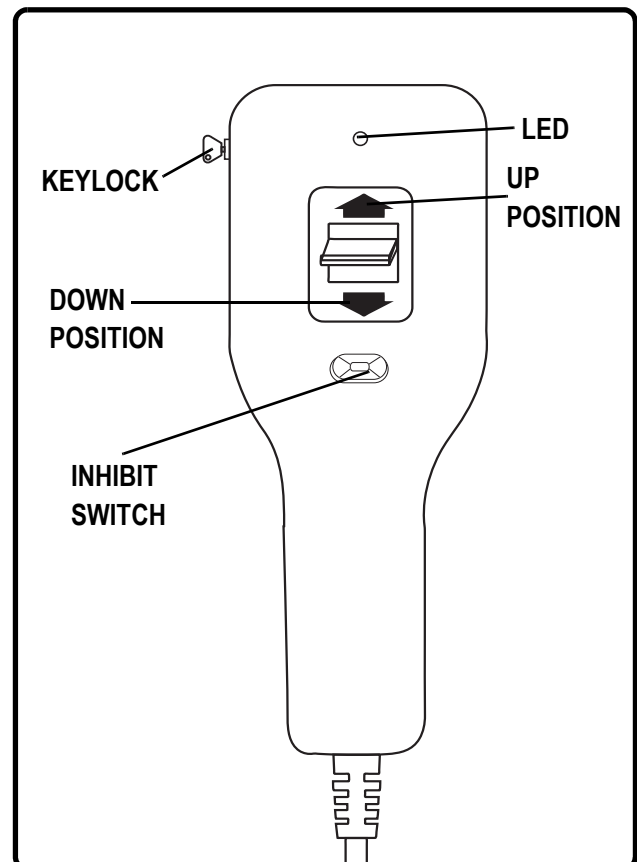

Figure 5.1 Hand Control
1. Engage and hold the up/down switch in the DOWN position until the footrest is sufficiently elevated from the ground (Fig. 5.1).
6. Engage and hold the up/down switch in the UP position to elevate the lift chair to its highest position (Fig. 5.1). Plug the chair-back motor cable (labeled with a green-A tag) into the green-A slot of the controller box. Plug the chair base motor cable (labeled with a yellow-B tag) into the yellow-B slot of the controller box. The controller box is located underneath the lift chair (Appendix B).
The hand control is equipped with buttons that control the movement of the chair-back, chair base, and footrest (Fig. 5.1).
Follow these steps to sit in your lift chair (Fig. 5.1):
Follow these steps to recline your lift chair from the seated position (Fig. 5.1):
Follow these steps to stand up from your lift chair from the seated position (Fig. 5.1):
Follow these steps to raise or lower the footrest while in the seated or reclined position (Fig. 5.1):
Follow these steps to recline your lift chair to the “Trendelenburg” position while in the seated position (Fig. 5.1):
Follow these steps to recline your lift chair to the “zero gravity” position while in the seated position (Fig. 5.1):
Follow these steps to operate the keylock (Fig. 5.1):